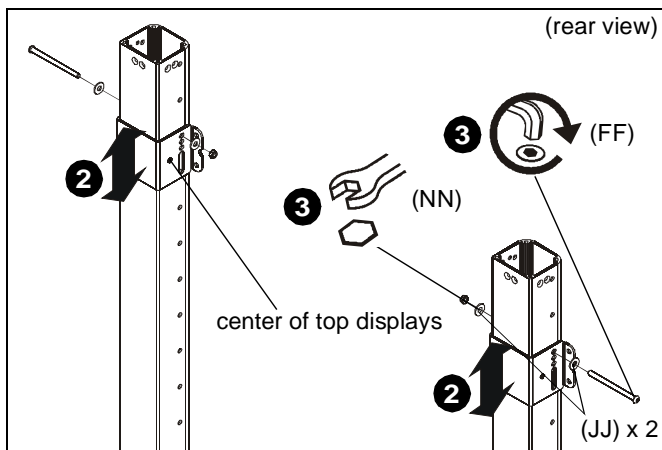

Figure 8
**IMPORTANT !** : Install all column add-ons (V), if applicable, prior to installing rails to columns.
2. Place clamp brackets (P) on columns in the position of where the center of the top displays will be on the cart with the diamond on the brackets being placed at the exact center location. (See Figure 8)
3. Use 5/16-18 x 4 1/2" button head cap screw (FF), two 5/16" washers (JJ) and 5/16-18" lock nut (NN) to secure each clamp bracket (P) to column. (See Figure 8)